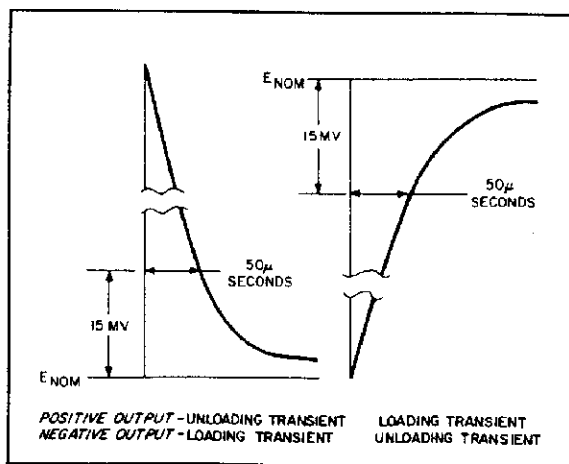

Figure 5-6. Load Transient Recovery Time Waveforms
i. Starting from the major graticule division representing time zero, count to the right  $50\mu s$  and vertically  $15mV$ . Recovery should be within these tolerances, as illustrated in Figure 5-6.